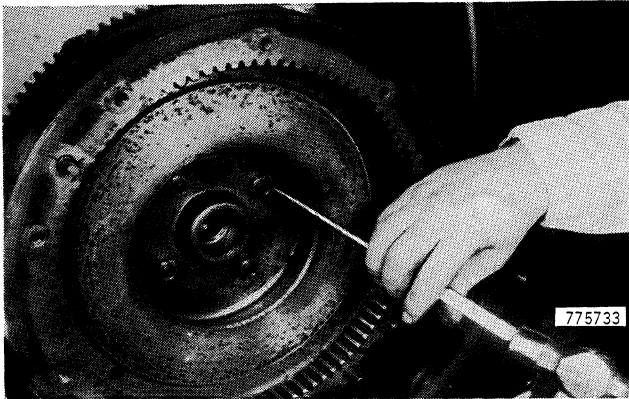

Figure 109
- 14. Bend the tabs on the tab plate over the nuts, Figure 109.